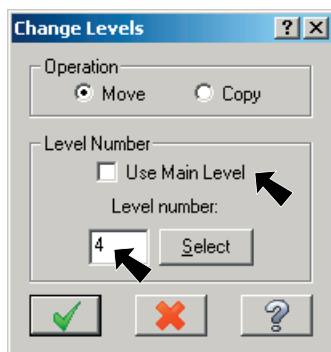

Fig. 29
Step 6. **Uncheck Use Main Level** in the Change Levels dialog box, **Fig. 29**.
Step 7. Key-in **4** for Level Number and click OK, **Fig. 29**.